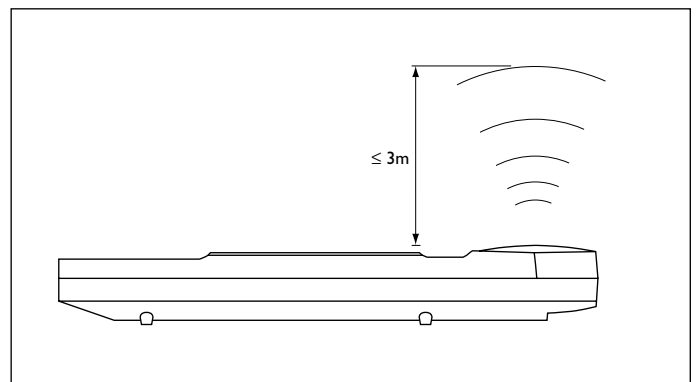

Figure 5: Radiation pattern in teach mode
1. When used as programming tool (or in "teach mode") the infrared radiation pattern of the IRT8080 is reduced to a narrow beam, in order to facilitate selective programming of luminaires or controllers. Therefore the transmitter must be pointed at the receiver and the distance from transmitter to receiver must be less than 3 meters. (See figure 5)